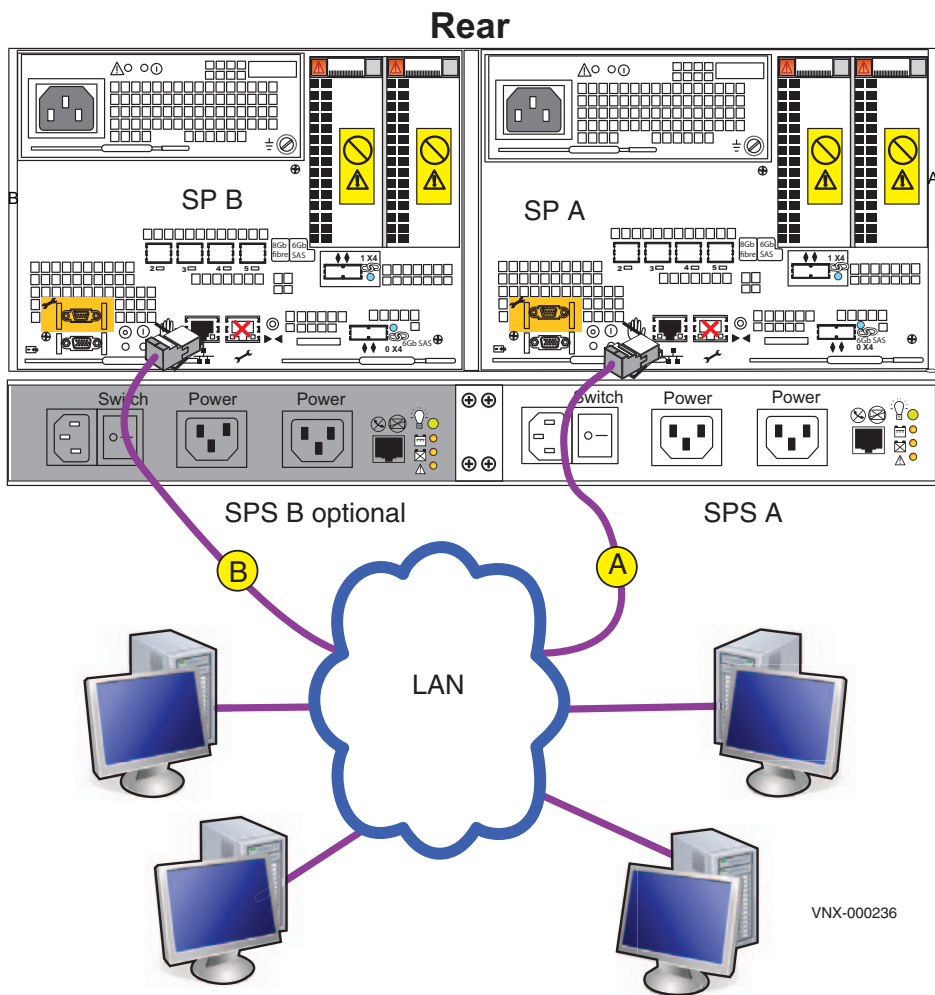

Figure 10 Attaching the SPs to the network
2. Connect your public LAN using a CAT 5e or better (customer-supplied) Ethernet cable to the RJ45 port on SP A . See cable A in Figure 10.
3. Connect your public LAN using a CAT 5e or better (customer-supplied) Ethernet cable to the RJ45 port on SP B . See cable B in Figure 10.